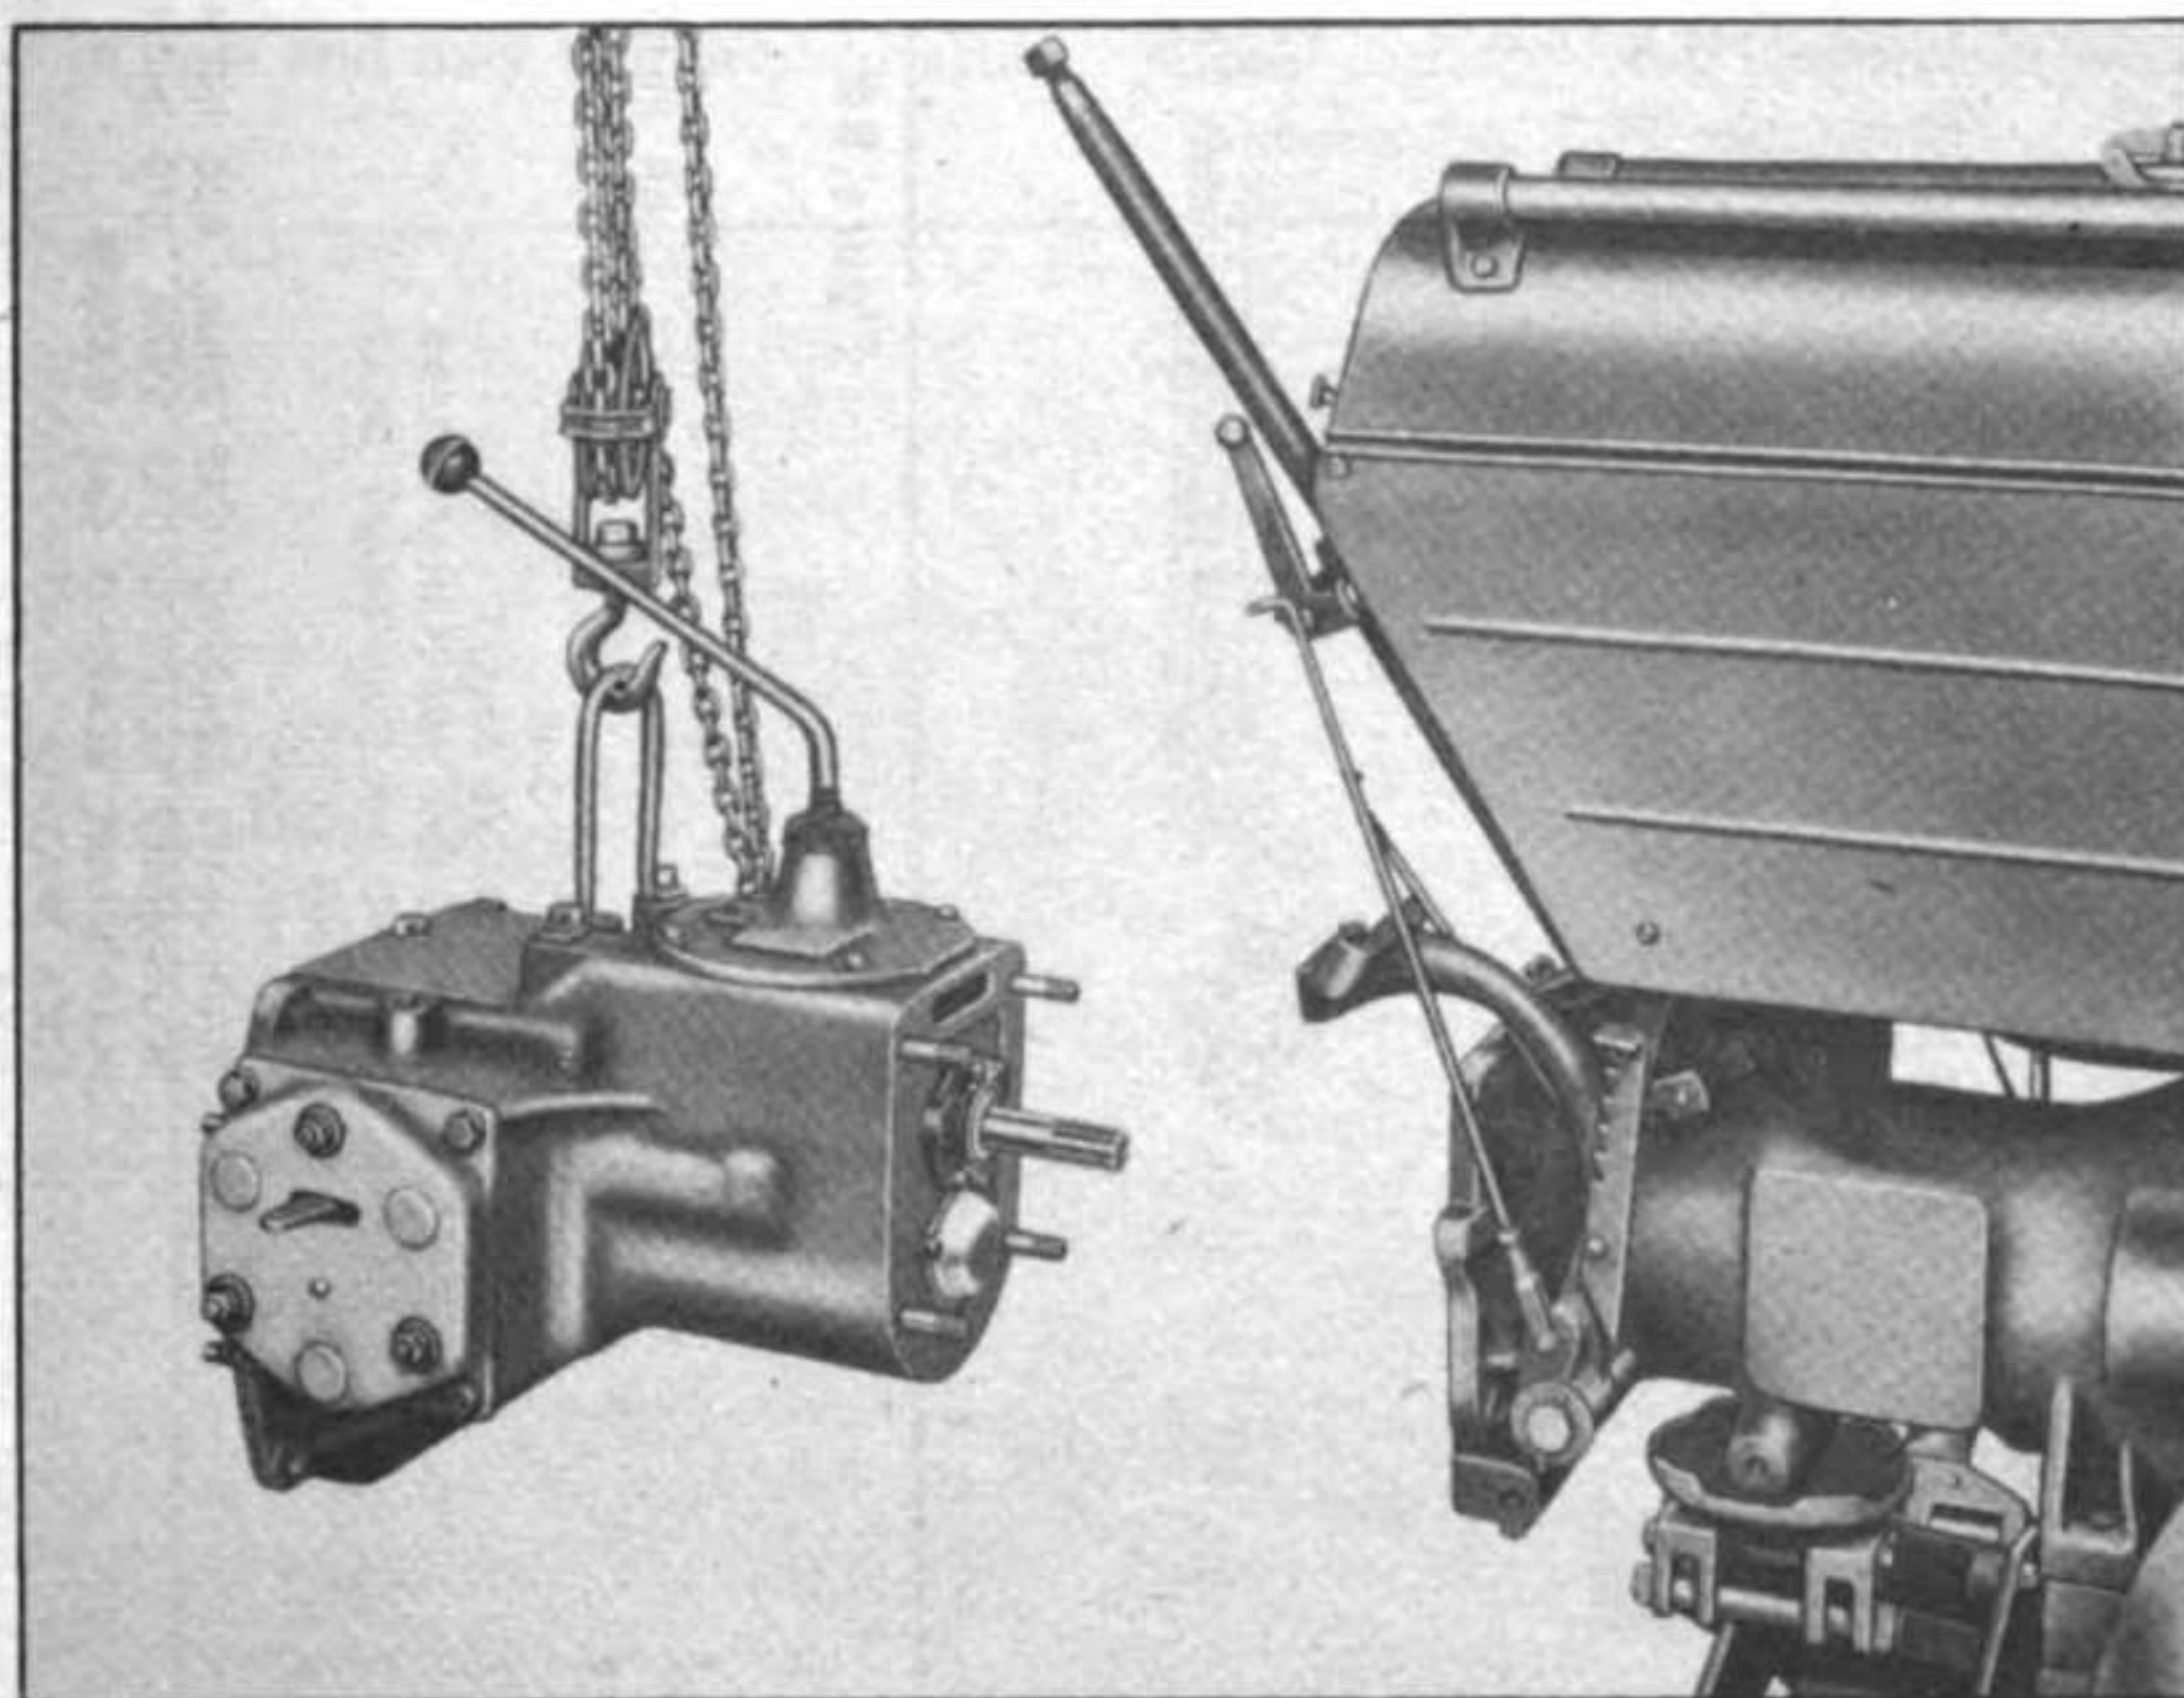

Figure 83 – Removing Transmission Case
(2) **REMOVAL OF TRANSMISSION CASE:** Remove steering wheel and attach a chain hoist to the transmission housing. Remove brake control rods. Remove four nuts from studs attaching transmission to torque tube and remove transmission from torque tube. (Figure 83). *NOTE: Caution must be observed when removing transmission so as not to bind and damage the splined ends of the shaft.*
(2) **PINION SHAFT:** Position rear bearing on shaft and reassemble the gears and related parts to the shaft from the inside of the case as the shaft is being positioned in the case. Refer to Figure 83 for proper sequence for gears, spacers, and bearings. Secure shaft to front of case with adjusting nut. While tightening nut, adjust shaft and gears so that no noticeable end play exists, but unit turns freely. Stake nut in grooves of shaft when proper adjustment has been obtained. Reinstall gasket and bearing cap and secure in place with three cap screws and lock washers.
(3) **MAIN DRIVE SHAFT:** Position shaft and bearings through front of transmission case and re-assemble gears and related parts to shaft as it is being pressed into place. Refer to Figure 83 for proper sequence for gears and related parts. Adjust bearings by inserting or removing shims as required ahead of the front bearing carrier. The shaft should have no noticeable end play but should turn freely.